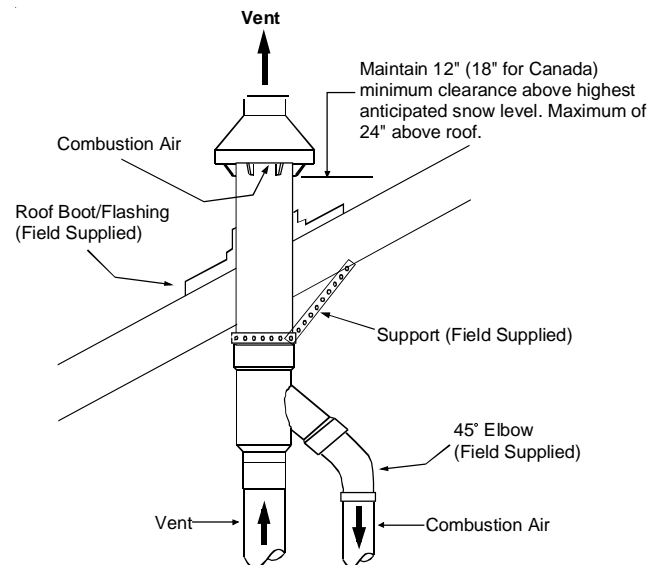
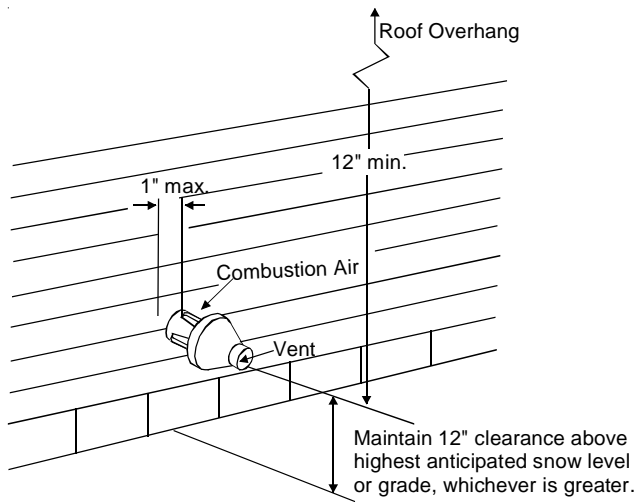
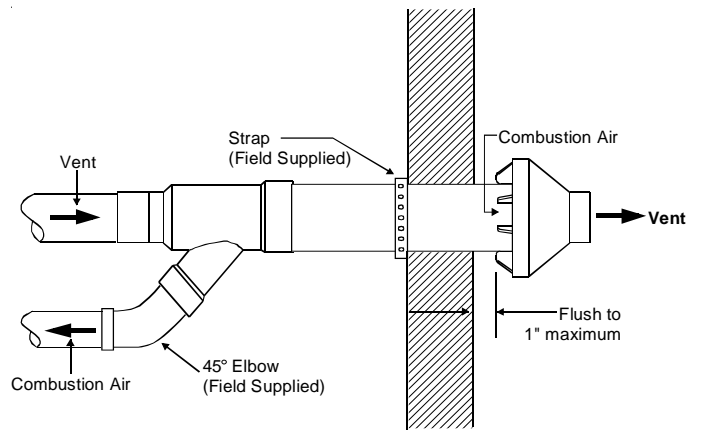

FIGURE 3
FIGURE 6
FIGURE 7
- Determine the best location for the termination kit. See Figure 3 for vertical termination or Figure 6 and Figure 7 for horizontal termination. Roof termination is preferred since it is less susceptible to damage, has reduced intake contaminants and less visible vent vapors. For side termination, consideration should be given to:
- Secure the assembly to the structure as shown in Figure 3 or Figure 7 using field supplied metal strapping or equivalent material.
- Ensure the termination height is above the roof surface or anticipated snow level as shown in Figure 3 for vertical termination.
- Ensure the termination location clearance dimensions are as shown in Figure 6 and Figure 7 for horizontal termination.
- Cement the furnace combustion air and vent pipes to the concentric vent termination assembly. See Figure 3 or Figure 7 for proper pipe attachment.